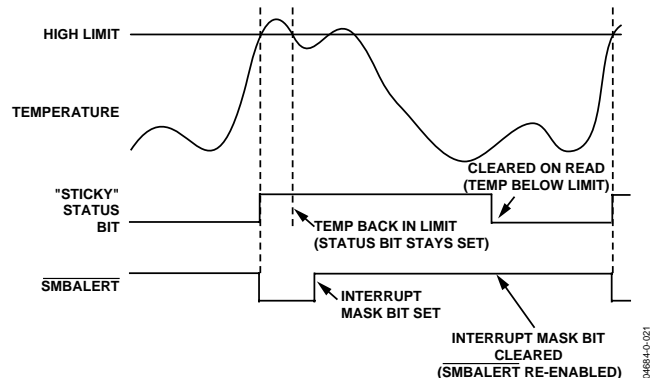

Figure 22. How Masking the Interrupt Source Affects SMBALERT Output
7. Periodically poll the status registers. If the interrupt status bit is cleared, reset the corresponding interrupt mask bit to 0. This causes the SMBALERT output and status bits to behave as shown in Figure 22.